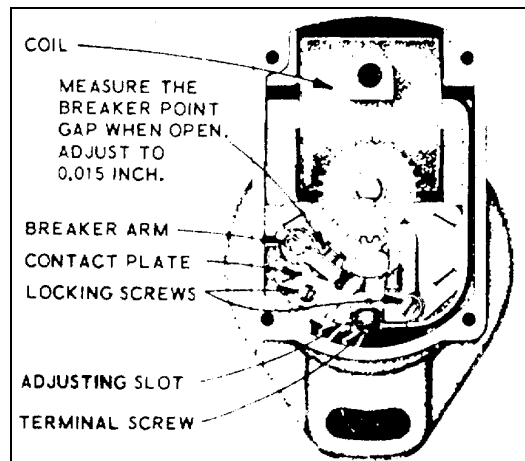

Figure 4-6. Magneto - End View
- (1) Loosen two locking screws on contact plate (figure 4-6) sufficiently to allow plate to move.
- (2) Insert end of small screwdriver into adjusting slot at bottom of contact plate and open or close contacts by moving plate until proper gap is obtained.